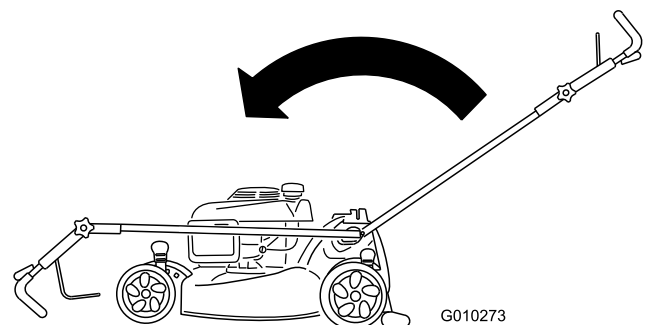

Figure 51
- Move the handle all the way forward and loosen the upper handle knob (Figure 51).